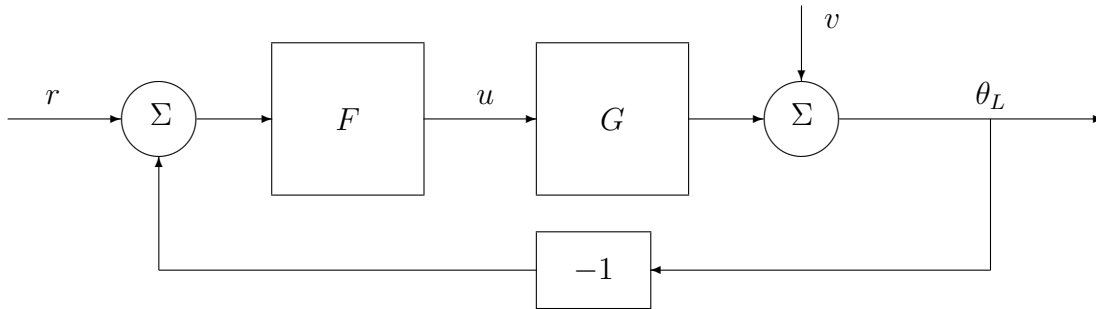

Figure 3: Control system.
First we want to control the system using only a proportional controller. This is shown in the Figure 3 where  $F(s) = K$ . The signal  $v$  is a disturbance that will be considered later, for now disregard it, i.e.,  $v = 0$ .
**Assignment 8.** Calculate and plot the Bode diagram of the sensitivity functions  $S(s)$  with the proportional controller **and** with the controller  $F(s)$  from Assignment 6 in the same plot (*hint: Bodemag(S1,S2)*). The sensitivity function is the transfer function from  $v$  to  $\theta_L$  in Figure 3. For which frequencies do the controllers attenuate the effect of disturbances on the output? For which frequencies are the effect of disturbances amplified?